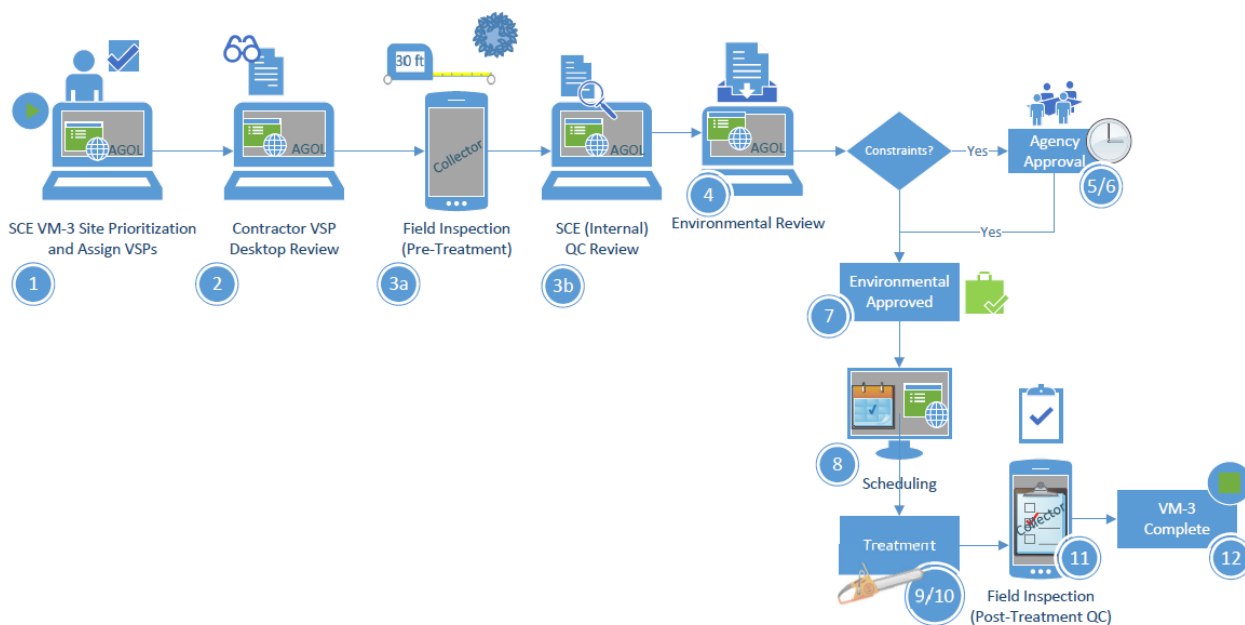
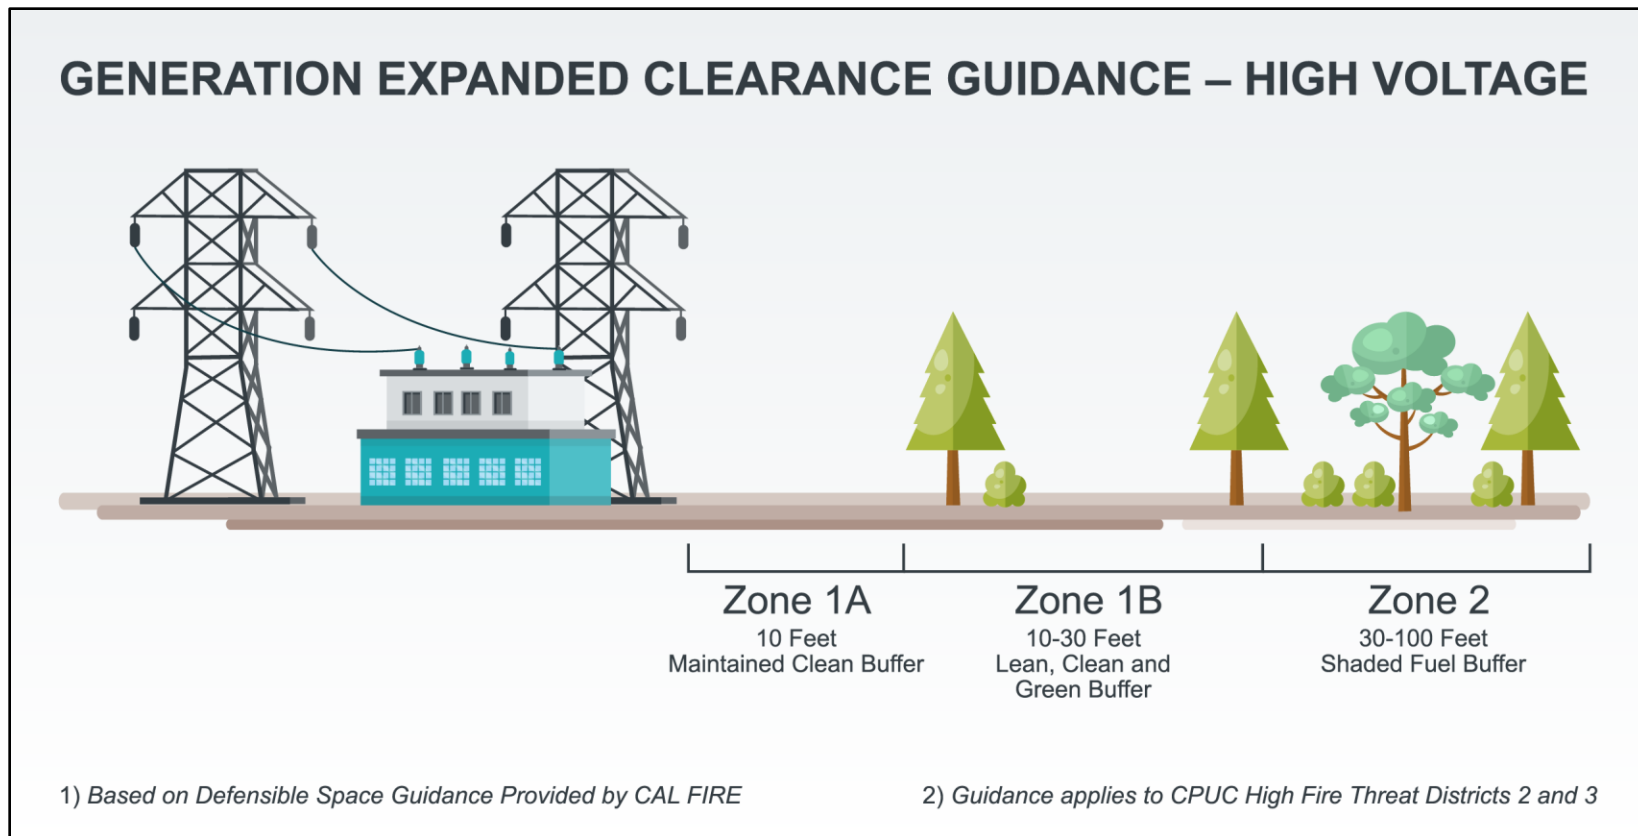

Figure 2 VM-3 Program Workflow
Figure 3 Expanded Clearance Guidance - High Voltage
The workflow diagram in Figure 2, below, represents the high-level workflow as well as data collection vehicle or system used for each step.
Zone should be Hardscaped (rock, cement etc.) or vegetation should be cut to the bare soil with little to no new growth since last treatment. For manicured and irrigated sites this can be healthy managed landscaping. (For HV assets zone should be hardscaped or chemically treated to reduce vegetation.) Large, healthy trees that do not pose obvious hazards may be retained as long as all portions of the tree are at least 10 feet from high-voltage features or any sources of ignition (e.g., chimney, powerline), and ladder fuels have been eliminated (see Figure 2). Landscaping features or large trees selected to remain within or immediately adjacent to Zone 1 shall be pruned and trimmed to ensure that they are not touching or overhanging the asset.
- > **Shrubs (Surface and Ladder Fuels):** Thin plants to achieve adequate spacing, which will vary depending on slope and plant size (see Figure 3). When possible, large shrubs that are retained should be trimmed and pruned to reduce contact with surface fuels. Shrubs that are potential fuel ladders into adjacent trees should be removed (see Figure 2).
- > **Trees (Ladder and Canopy Fuels):** Thin trees to achieve adequate spacing, which will vary depending on slope and crown size (see Figure 3). Conifers under 20 feet tall should be pruned so that the height to the base of the live crown is equal to half of the total tree height. Conifers over 20
- > **Shrubs:** Create spaces and gaps between individual plants and groups of plants to break up surface fuels. All fuel ladders should be eliminated. Horizontal spacing is summarized below and depicted in Figure 3.
- > **Trees:** Retain individual trees and/or groups of trees while creating strategic canopy gaps. Consideration should be given to the species diversity and health of the retained trees. Trees under 20 feet tall should be pruned so that the height to the base of the live crown is equal to half of the total tree height. Conifers over 20 feet tall should be pruned to a minimum of height of 10 feet above the ground. Hardwood trees should be pruned to lift the height of the canopy 4 to 6 feet above the height of any surface fuels. Where there is a need for a visual screen, vegetation can be retained in a mosaic that breaks up fuel continuity with appropriate spacing while leaving patches of unlimbed or reduced limbing of trees. Horizontal spacing is summarized below and depicted in Figure 3.